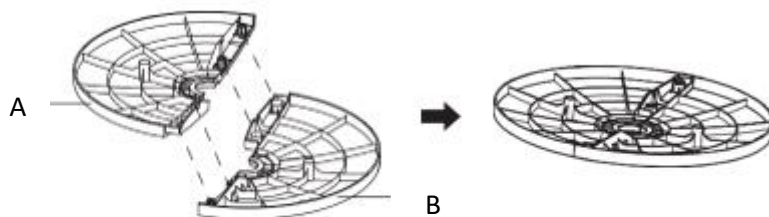

Fig 1
1. Take out the two parts of base from the packing box. Insert the two poles of part A into two holes of part B, and insert the two poles of part B into two holes of part A to assemble the base as Fig 1